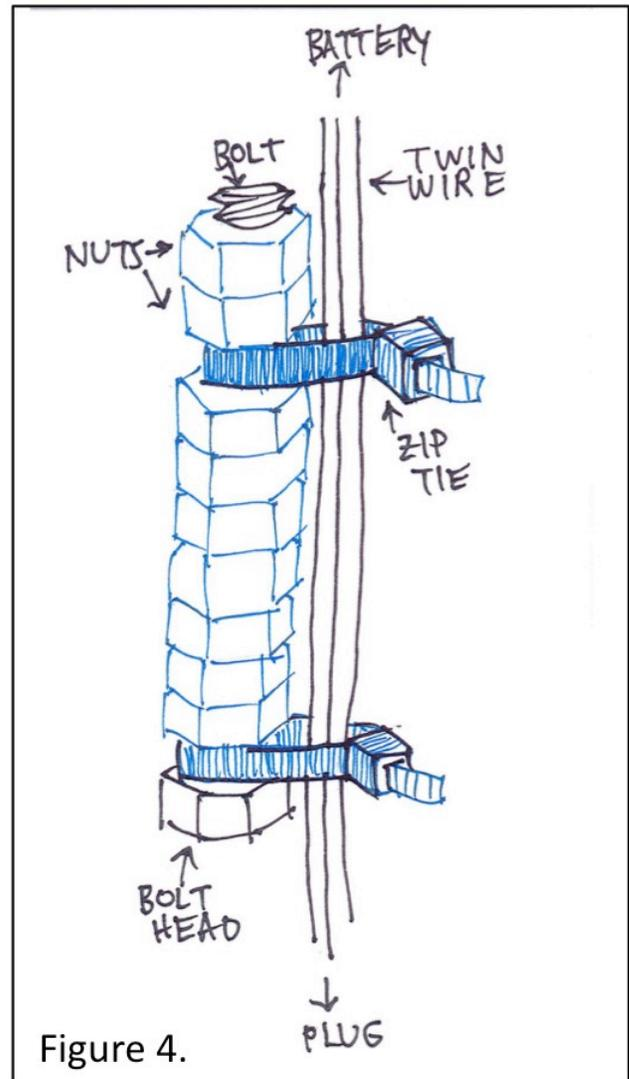

Figure 4.
3. Follow the diagram in figure 4, right, to attach weights to the bottom end of the twin wire. The weight is necessary to keep the wire taut. Put nuts on the bolt, leave gaps for zip ties. Tighten zip ties around bolt and twin wire. Repeat with second bolt (or as many as you need.)